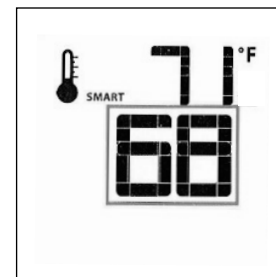

Figure 73. Smart Set Temp.
- To adjust the temperature, press the Up or Down Arrow Keys until the desired Set Temperature is displayed. Fig. 73.